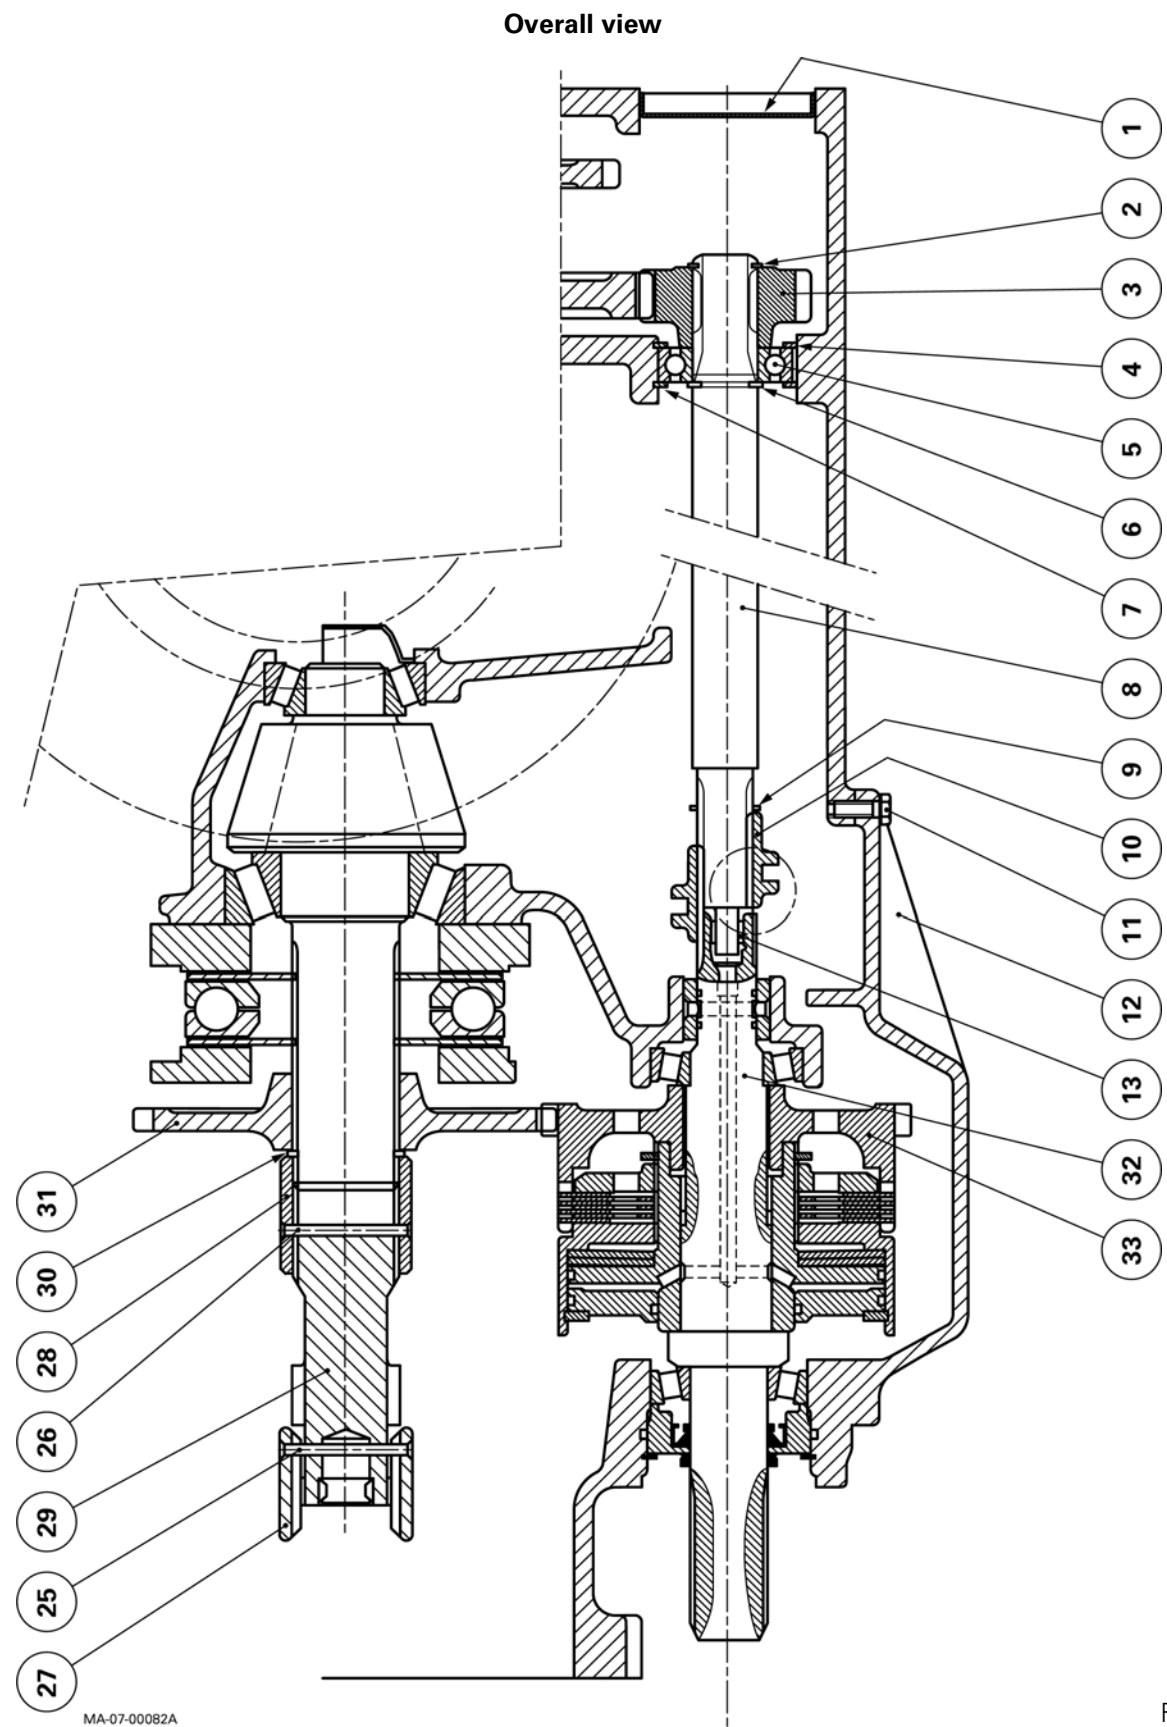

Fig. 1
2. Take out the screws (11).
3. Take off cover (12).
Note: Recover the spring (3) (Fig. 1).
4. Remove the retainer pipe (4) from the control link (7) and the locking stud (2) (Fig. 1).
Note: The pad (1) turns free in the link pin (7) (Fig. 1).
6. Remove the O'ring (5) (Fig. 1).